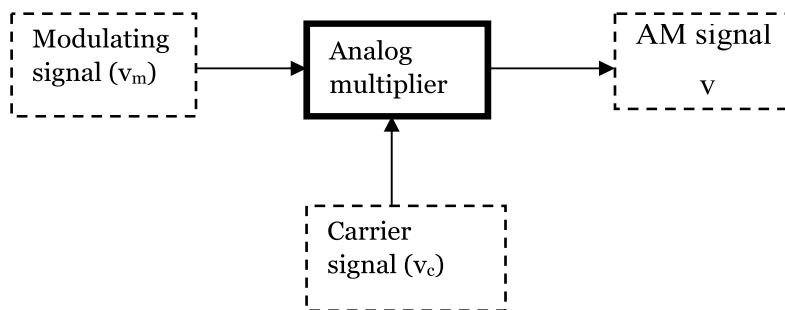

Fig 5.1: Block diagram representation of generation of AM signal
3. Connect blocks according to figure 5.1.